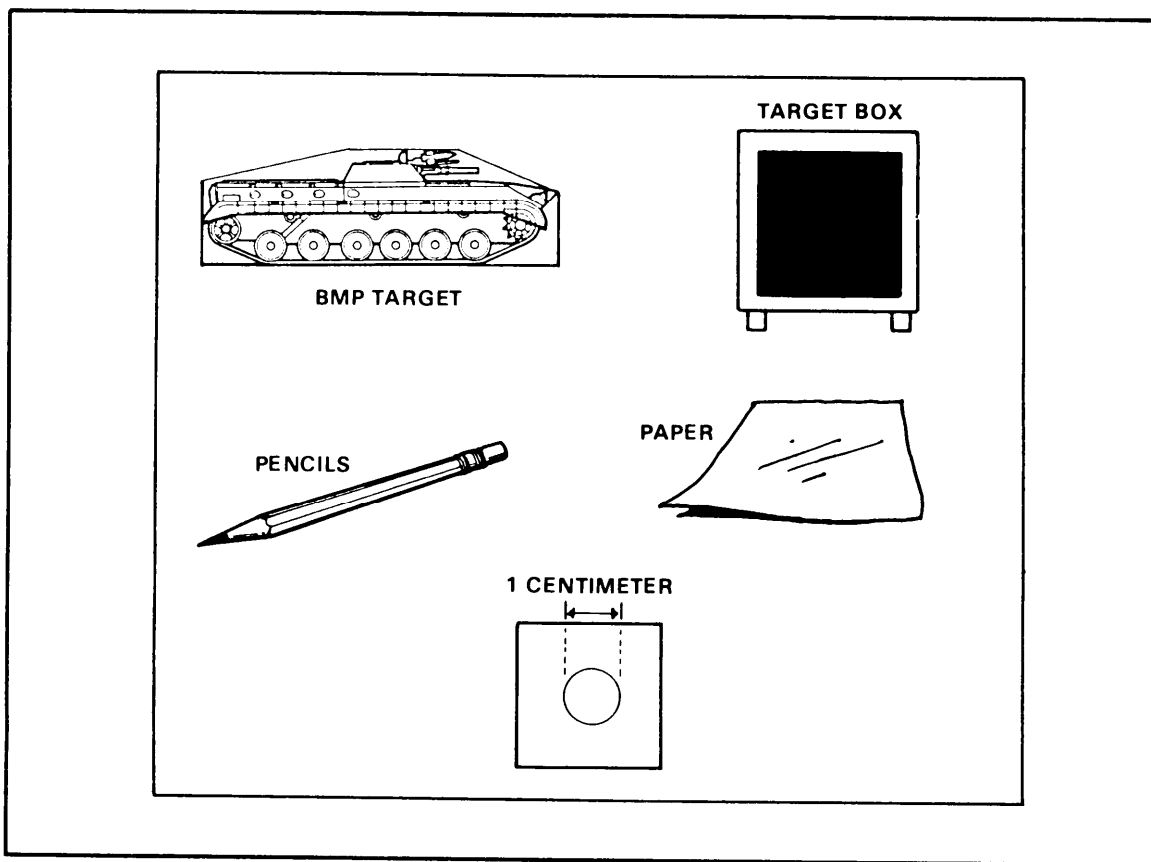

Figure 5-9. MK 19 target board.
(2) The second sighting and aiming exercise, used with the MK 19 and target board, gives the gunner a chance to apply lessons learned during the first exercise. Place the target board (Figure 5-9) 10 meters from the muzzle of the MK 19. Use the T&E mechanism to get the correct sight picture on each target that is called out. the gunner feels he can sight and aim, the coach checks and critiques the gunner's ability to change from the start point on the target board to any new target called by the coach.